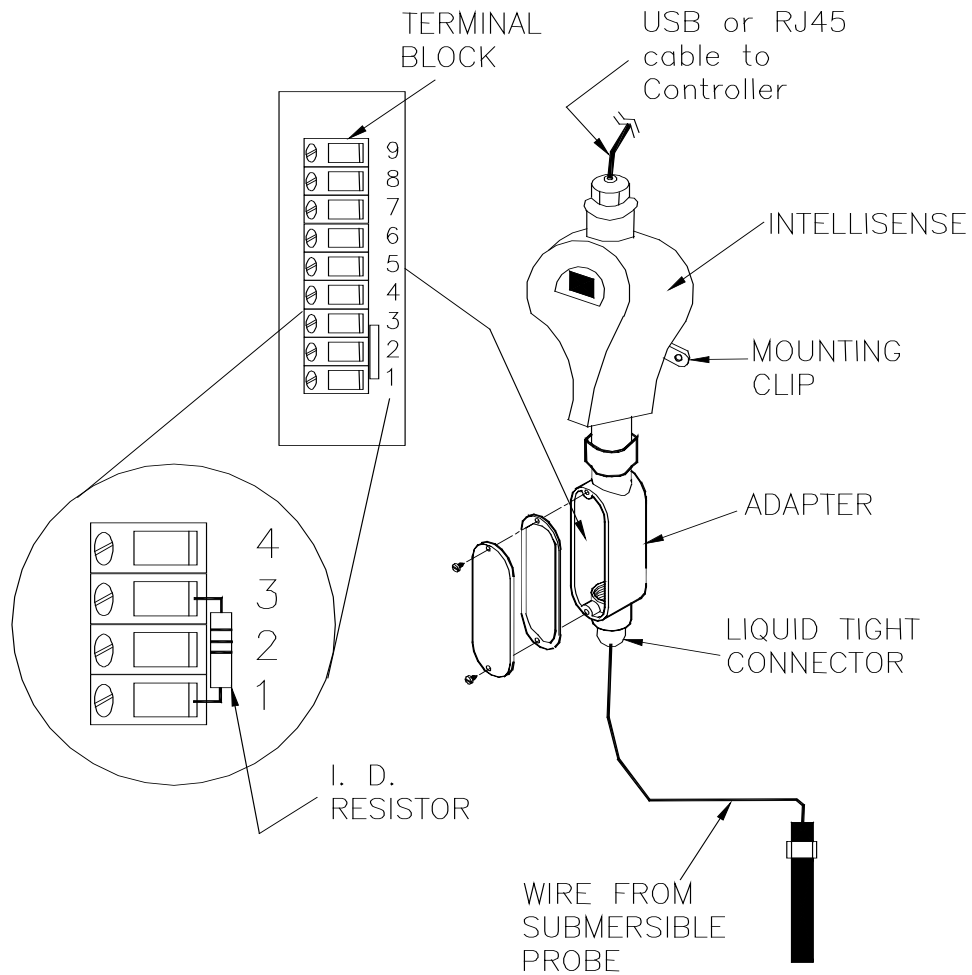

Fig. 30
Submersible toroidal probes (TSUB) and boiler conductivity probes (CCBS) are attached to the system via the *IntelliSense* Adapter's terminal block (Fig. 30). Loosen the (2) screws to remove the cover. Next, pass the cable from the probe through the liquid tight connector located on the bottom of the Adapter box. Strip the probe wires and attach them to the terminal block using the chart below (see Fig 31). *Vision* probe wire colors are in parentheses. While most *Vision* probes have an **internal** identifying (I.D.) resistor, these probes require an **external** identifying (I.D.) resistor.